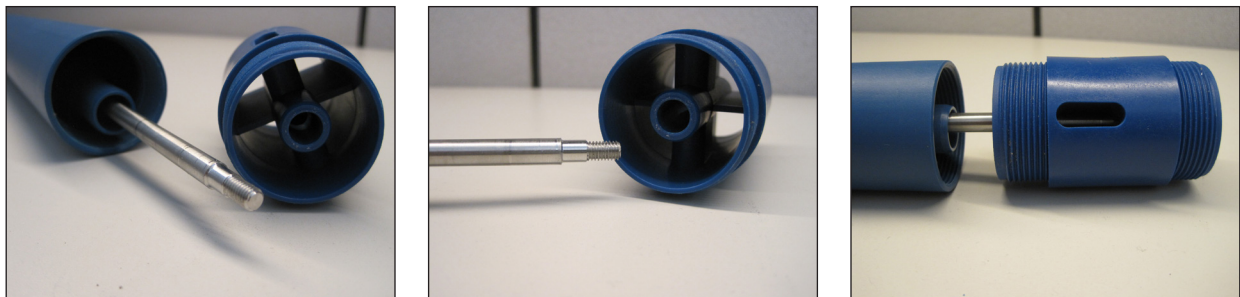

Figure 15 A, B, & C
- 6. Diffuser Installation** - Install the diffuser (item 15) onto the bottom of the outer tube. This is a tight fit so it is recommended to use a compatible lubricant or water. Insert the shaft through the small support opening on the diffuser. The small support opening will insert up inside the inner tube (item 11). With a slight push and turn, thread the diffuser into the outer tube (item 14) turning counter clockwise (left hand thread). See figures 15 A, B, & C.